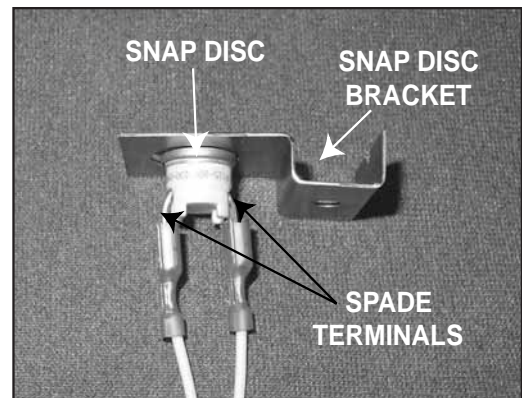

Figure 15
4. Install the snap disc. A snap disc bracket is located in the appliance's component bag. Bend the two spade terminals on the snap disc from a horizontal to a vertical position. Insert the snap disc through the hole in the snap disc bracket and attach the two white wires from the wiring harness to the snap disc. **Figure 15.**